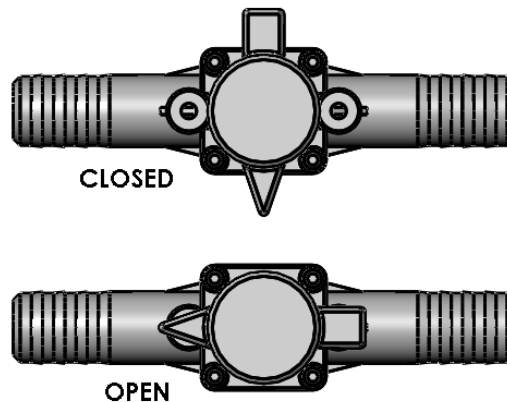

Figure 16
58. Verify that the 5/8" Shutoff Valve installed earlier is in the open position. The valve should be turned such that the handle is parallel to the 5/8" hose. See Figure 16.